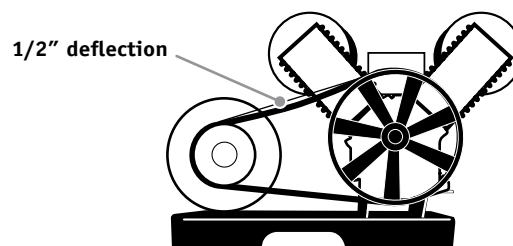

Figure 3: Proper belt tension
6. Install belts. There should be 1/2" slack for proper belt tension. See figure 3.
2. Check for proper belt tension. There should be 1/2 inch slack. Refer to figure 3, pg. 4.
1. Proper belt tension is determined by pressing on belt midway between motor pulley and flywheel. There should be approximately 1/2 inch of deflection. Refer to figure 3, pg. 4.